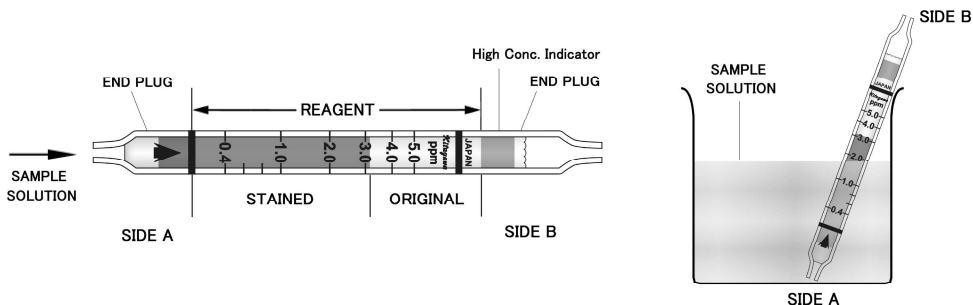

Fig.1
- ① Break both ends of the detector tube with attached ampule cutter.
- ② Immerse the end of the tube with SIDE A into the sample solution to draw it up by capillary action as shown in Fig.1. (Arrow mark shall point to the surface of the sample solution.)
- ③ When the sample rises up to the end plug (SIDE B), remove the tube from the sample solution.
- ④ Read the scale at the maximum point of the stained layer.
- ⑤ When the concentration of sample solution is over the 5 ppm (full scale), dilute the sample solution accurately (by some ratio) with distilled or purified water and measure the sample solution and multiply reading value by the dilution ratio.